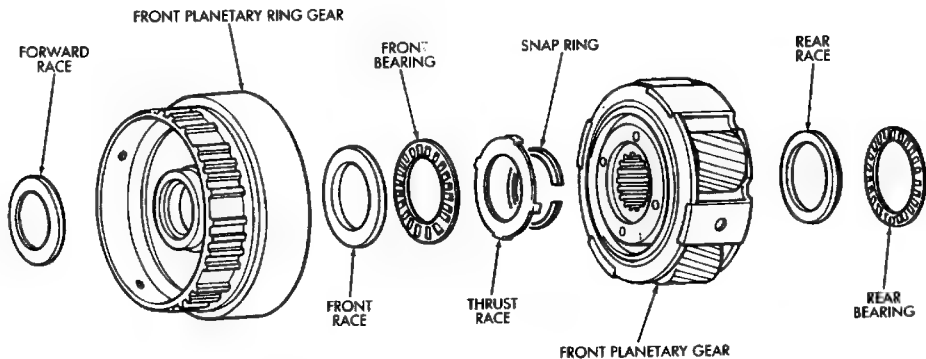

Fig. 1 Front Planetary Gear Components
- (1) Remove ring gear from planetary gear (Fig. 1).
- (2) Remove front bearing and the two races from ring gear (Fig. 1).
- (3) Remove tabbed thrust race from planetary gear (Fig. 1).
- (4) Remove snap ring attaching planetary gear to shaft and remove gear.
- (5) Remove rear bearing and race from planetary gear.
- (6) Measure inside diameter of ring gear bushing.
- (1) Lubricate planetary and ring gear bearings and races with petroleum jelly.
- (2) Identify planetary bearings and races before installation. (Fig. 1). Bearings and races can be identified by following dimensions: